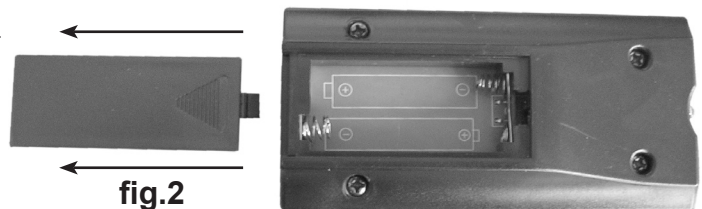

fig.2
- 5.4 To change the remote batteries, press down and push back the battery cover (fig.2), remove old batteries and replace with two new AAA batteries.